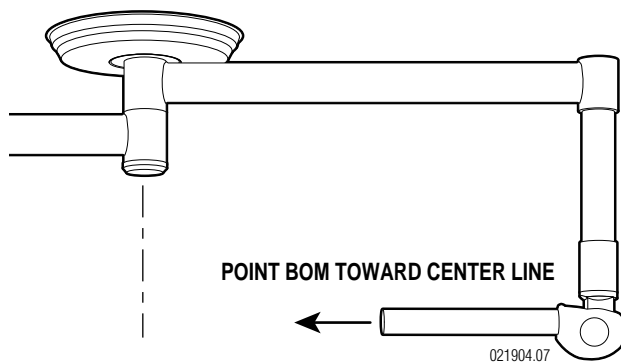

Figure 5.
a. To make it easier to install the lighthouse, locate the support arm of the balance mechanism so that it points inward toward the ceiling cover. This will prevent the radial arm from moving when installing the lighthouse. See figure 5.